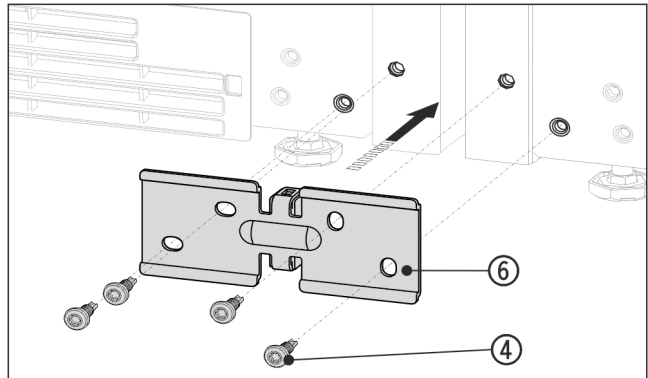

Fig. 14 Example illustration
- Slide the bracket Fig. 14 (6) with the spacer between the appliances and loosely screw on with 4 screws Fig. 14 (4).